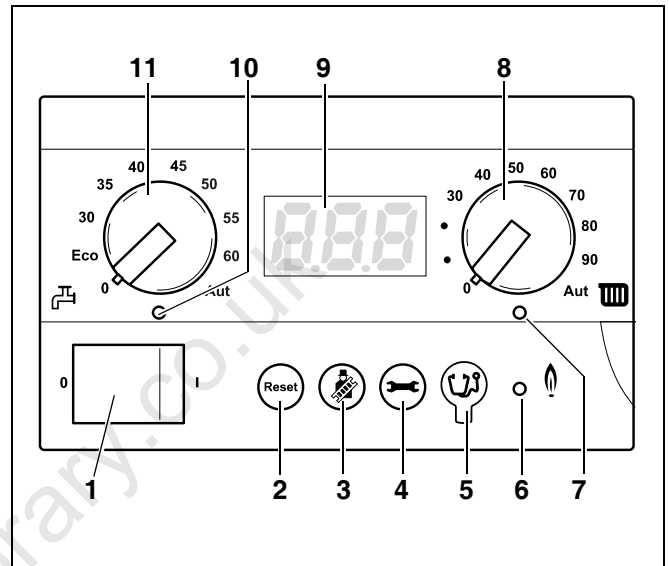

fig. 7 BC10 basic controller
- Switch on the mains switch (fig. 7, **item 1**) on the BC10 (position "1").
- Press the "Service" button (fig. 7, **item 4**) until the system pressure ("P1.5") is shown in the display (fig. 7, **item 9**). Also see 6.1.1, "Normal Operation menu", page 17.